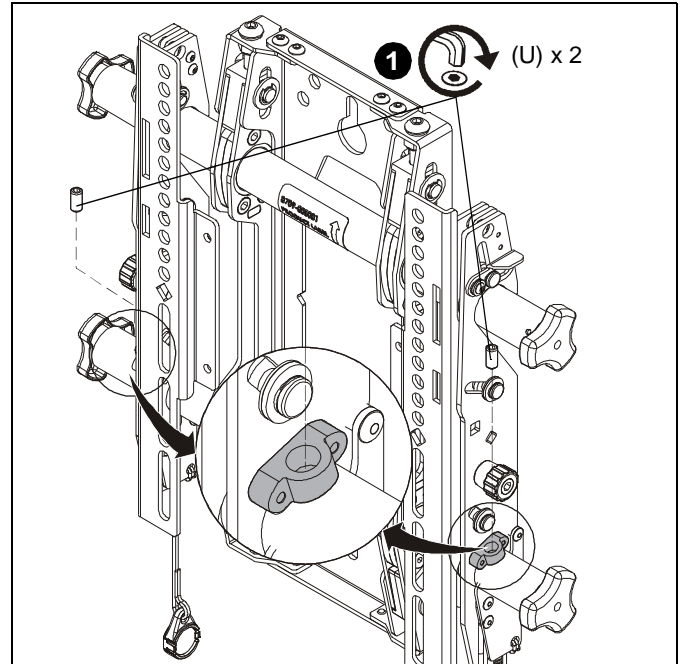

Figure 12
1. Lock screen interface brackets onto mount rails using one 3/8-16 x 3/4" set screw (U) on each interface bracket. (See Figure 12)